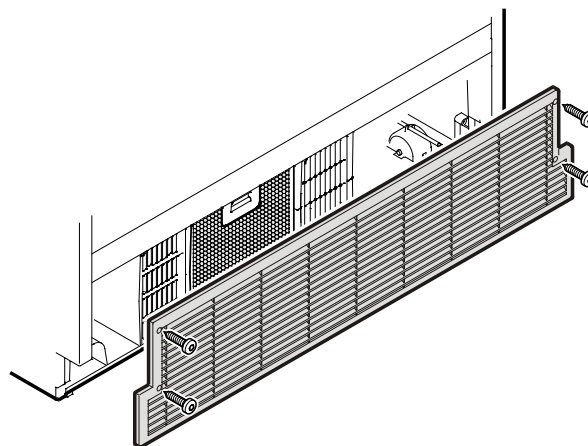

Figure 20
3. Mount the ventilation grille as shown in Figure 20.